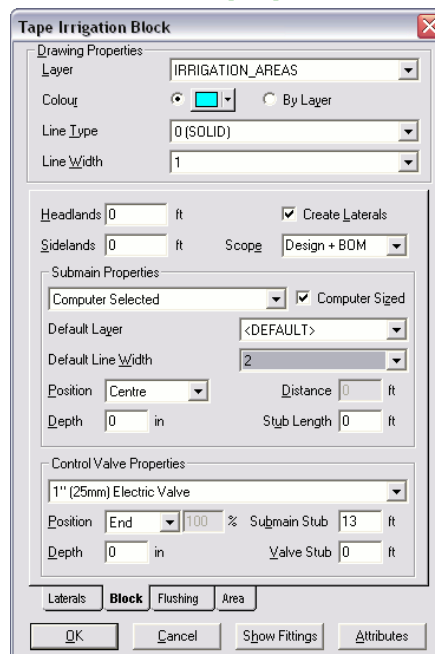

Figure 4-29
6. In the “Submain” area of the dialog box set **Center** as the “Position” but leave as **Computer Selected**. In the “Valve” area of the dialog box set the “Position” to **End**, The “Submain Stub” as **13ft (4m)** and specify the valve as the **1” (25mm) Electric Valve** (Figure 4-29). Click [OK].